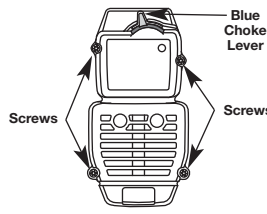

Fig. 25
1. Remove the four (4) screws securing the air filter/muffler cover (Fig. 25). Use a flat blade or T20 Torx bit screwdriver.
2. Place the blue choke lever in Position 2 (Fig. 25) and pull the cover from the engine. Do not force.
2. Insert the four (4) screws into the holes in the air filter/muffler cover (Fig. 25) and tighten. **Do not over tighten.**